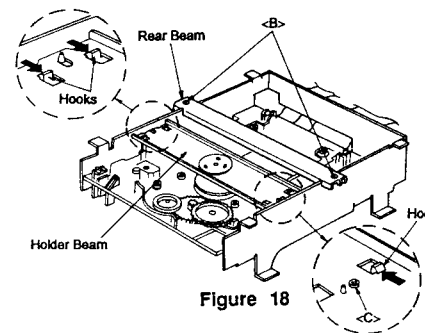

Figure 18
- (1) Remove two screws  (3 × 6 mm), then remove the Rear Beam as shown in Figure 18.
- (2) Remove the screw <C> (2.6 × 8 mm) in Figure 18.
- (3) Remove the Holder Beam while pushing three Hooks as shown in Figure 18.